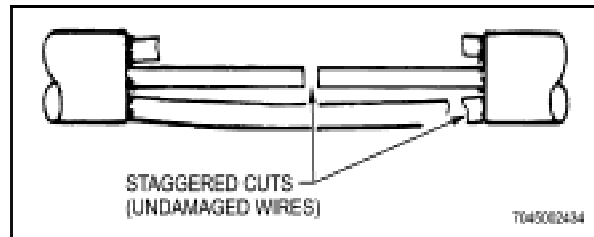

Figure 5-20 Undamaged Wires Cut at Staggered Locations
- i. Cut undamaged wires at staggered locations (Figure 5-20).